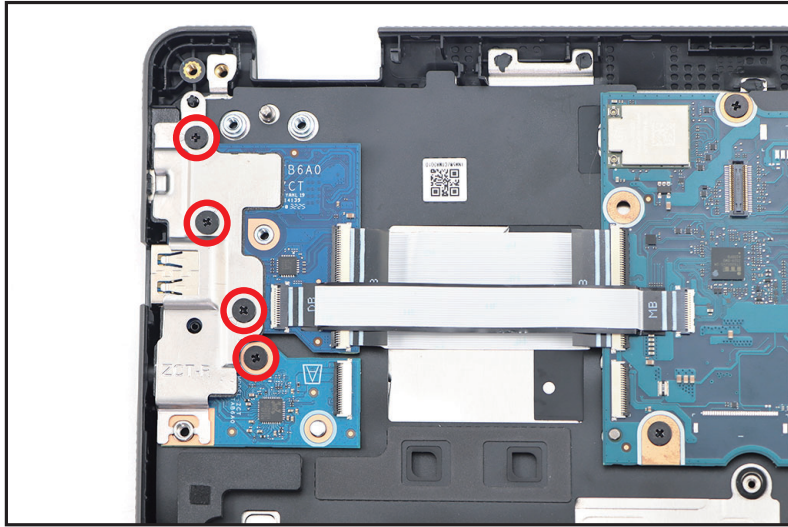

Figure 1-39. Audio Board Removal
2. Remove four (4) screws securing the USB board, I/O bracket, and audio board (Figure 1-39).